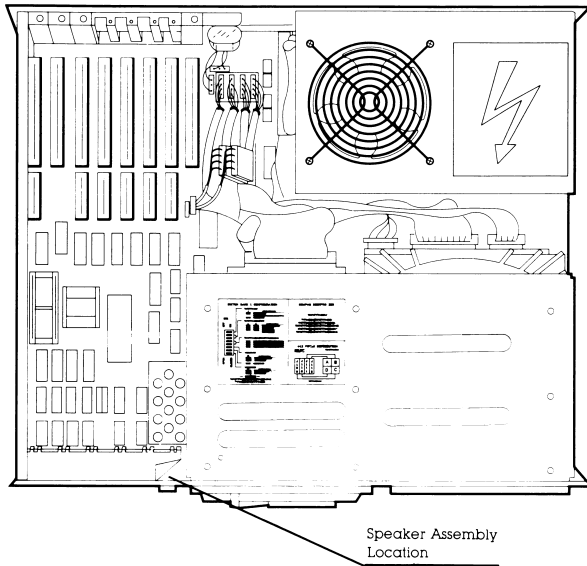

Figure 7-26. Location of the Speaker/Board Guide Assembly.
1. Complete the preliminary steps in Section 7.7. The speaker assembly is now visible (Figure 7-26).